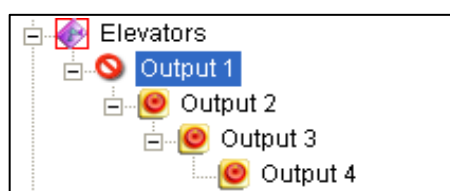
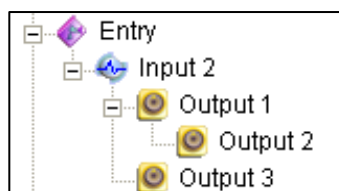

Figure 6-27
Figure 6-28
- ☒ In the Advanced I/O List, considering cascade triggers, you can only manually force the output at the top level, e.g. Figure 6-27. Other outputs at sub levels cannot be forced manually, e.g. Figure 6-28.